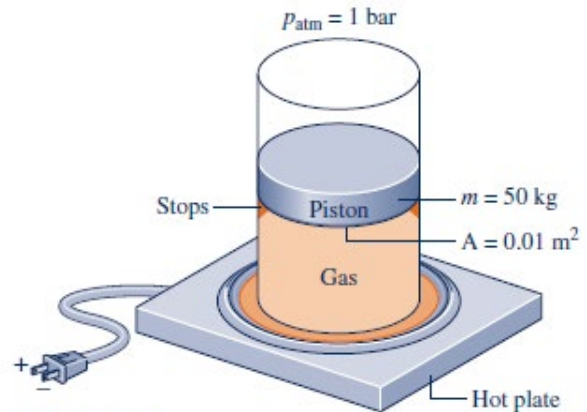

Fig. P1.26
1.26 As shown in Fig. P1.26, a vertical piston–cylinder assembly containing a gas is placed on a hot plate. The piston initially rests on the stops. With the onset of heating, the gas pressure increases. At what pressure, in bar, does the piston start rising? The piston moves smoothly in the cylinder and $g = 9.81 \text{ m/s}^2$.